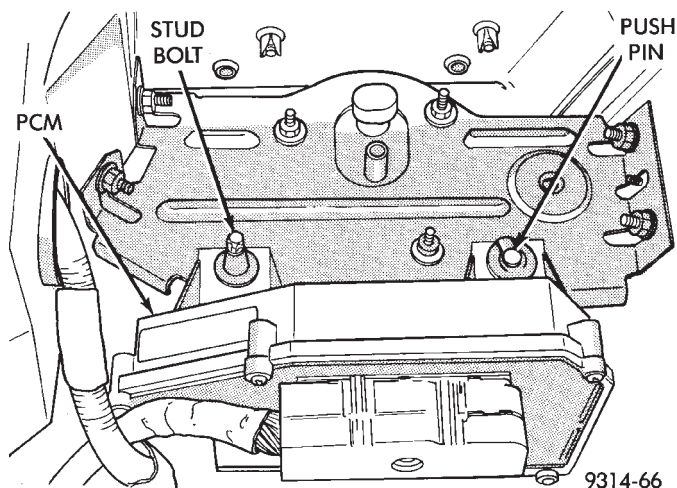

Fig. 1 PCM Location
- (1) Remove air cleaner.
- (2) Remove stud bolt and push pin attaching PCM to body (Fig. 1).